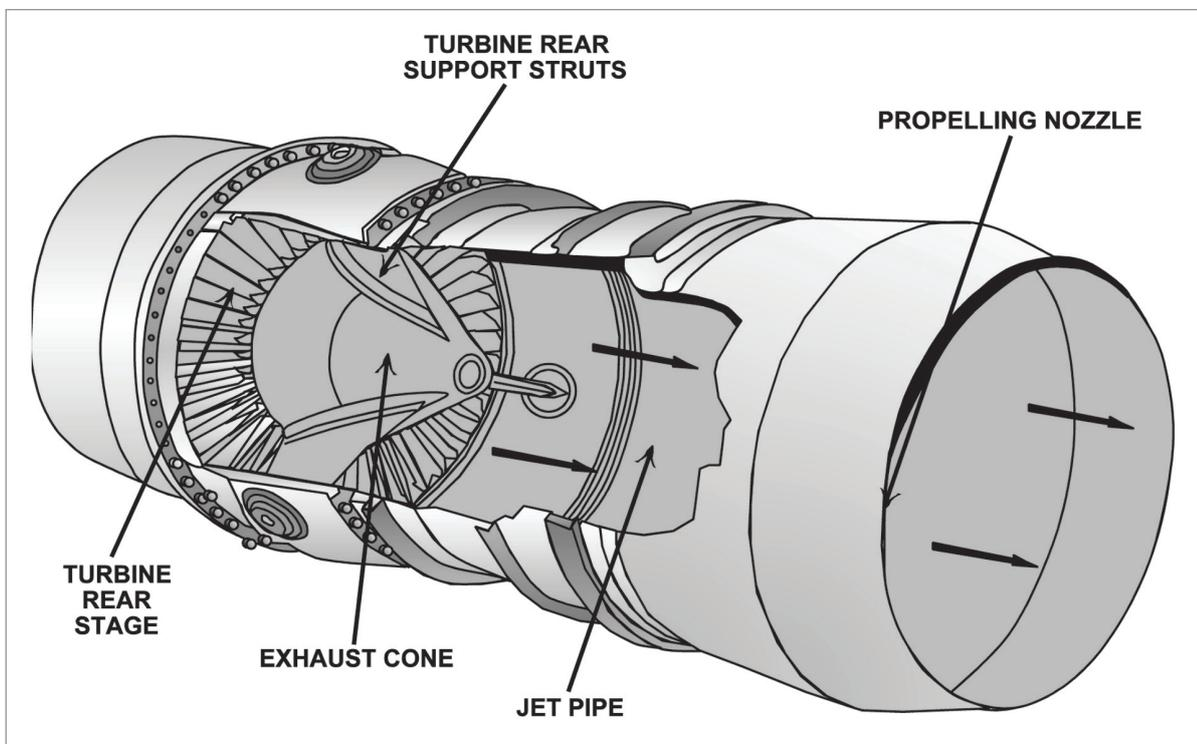

Figure 18.1 A basic jet pipe.
*Figure 18.1* shows the basic layout for the jet pipe of an aircraft without afterburners. Although the shape of the outer casing appears to be convergent, at the point where the gas leaves the turbine, **the shape of the volume within the casing is in fact divergent.**